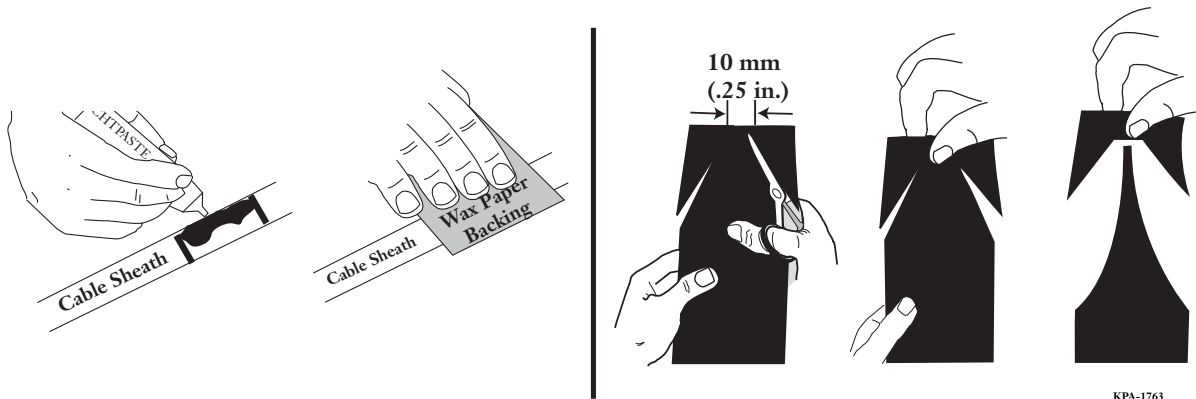

Figure 11
- Step 3:** Apply sealing paste “dichtpaste” to the cable. Use wax-paper backing from the sealing tape to spread the paste evenly around the cable in the area where the sealing tape will be applied (Figure 11). Wait for the sealing paste to dry.
- Step 4:** Cut and pull the strip of sealing tape as shown in Figure 11. The tape will stretch and thin before it breaks.